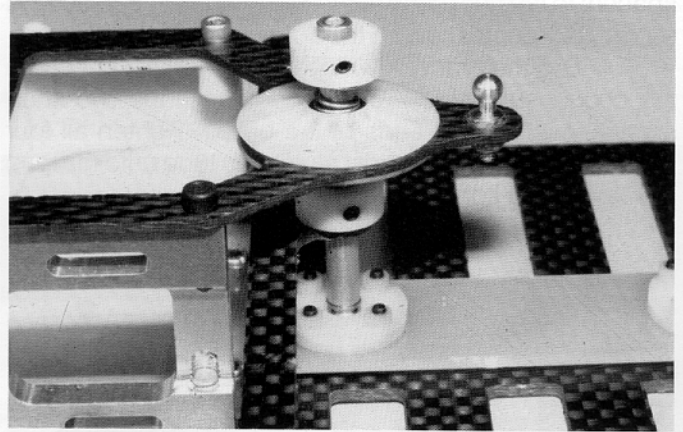

Fig. 35
□ **Fig. 35**—Install the upper dampner washer assembly, as shown.